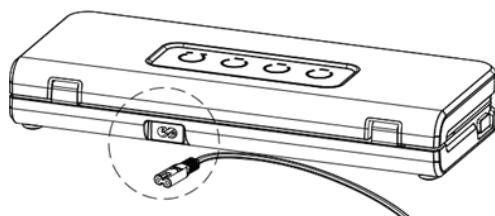

Figure 1
1. Plug the power cord into a power outlet (**as shown in Figure 1**);